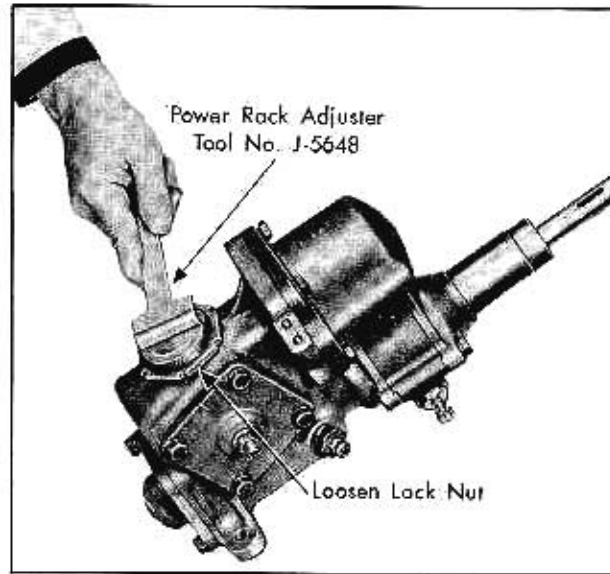

Fig. 7-8 Adjusting Power Rack
1. Using Special Tool, No. J-5648, tighten the power rack adjusting screw so that the over center pull through is  $1/8$  to  $1/4$  lb. greater than that obtained in the pitman shaft end play adjustment, Fig. 7-8 (Note 3b above). This should be measured at the rim of the wheel through an arc not exceeding  $3^\circ$ .